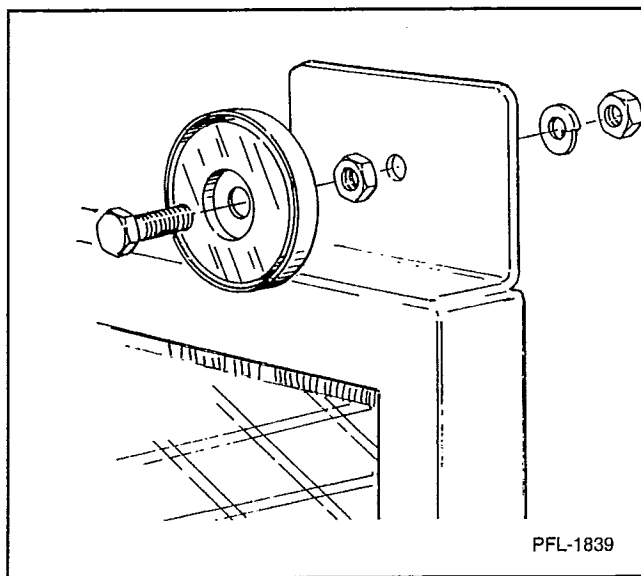

Figure 7
14. Install magnet. Put bolt through magnet. Turn inside nut (closest to magnet) until 1/16" clearance is obtained between nut and magnet. Take magnet with bolt and nut and put the protruding end of bolt through mounting hole. Take the other nut and lock-washer and mount the magnet. Hold the bolt and tighten mounting nut (outside nut). The 1/16" clearance is necessary to allow for variations of magnets striking the area. If given clearance is not included, magnet will not hold gate closed and may result in a broken magnet. See Figure 7.